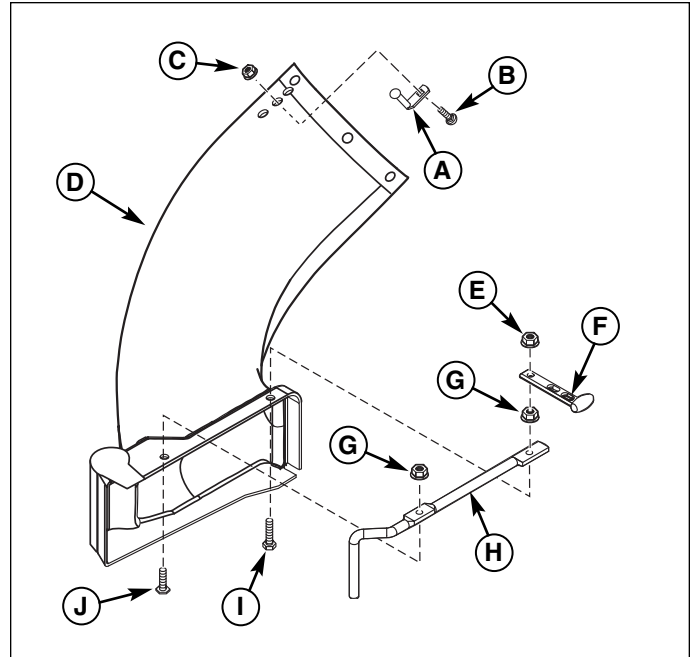

Figure 3. Lower Chute to Boot Installation
1. Insert the head of latch pin (A, Figure 3) through front hole of lower chute (D). Secure with carriage bolt (B) and locknut (C).
2. Install the rod (H) to lower chute (D) using locknuts (G) for front holes. Tighten hardware.
3. Install the rubber strap (F) onto capscrew (I) securing with locknut (E).